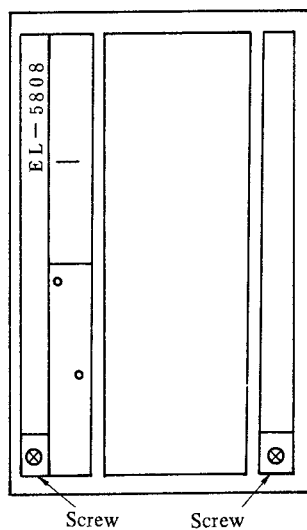

Fig. 1
2. Take out the bottom panel after loosening the two screws that are securing the bottom panel (Fig. 1).